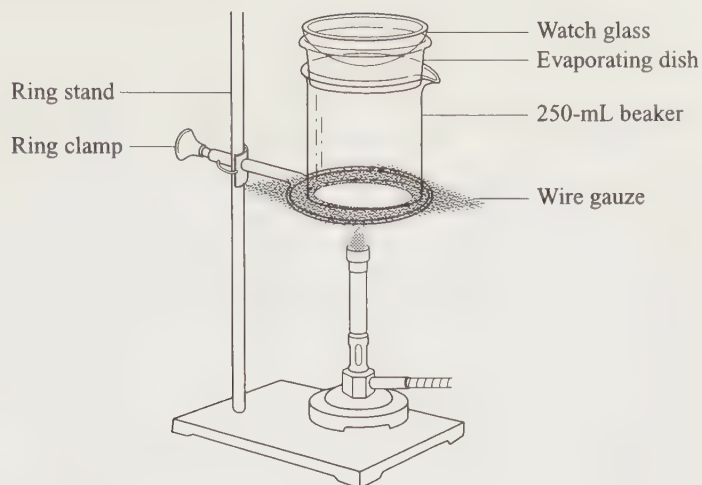

FIGURE 1
1. Set up the apparatus as shown in Figure 1. Note that you are basically making your own hot-air popper. The Bunsen burner provides the heat (a hot plate can be used instead), the beaker holds the air that will be heated and ultimately pop the popcorn, the evaporating dish holds the kernels, and the watch glass acts as a lid.